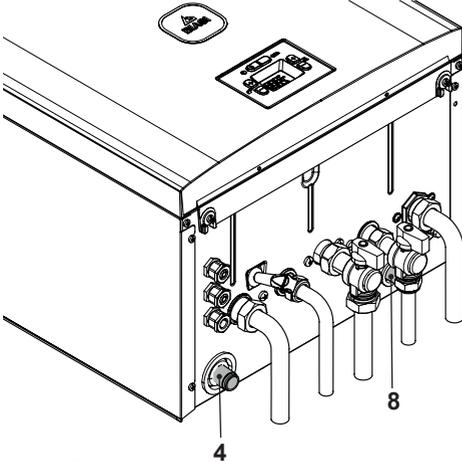

Figure 5.4
- Connect the safety valve discharge 8 (Figure 5.4) to an outlet funnel.
- Connect the condensate outlet pipe 4 (Figure 5.4) inside the residential condensate outlet duct or the safety valve outlet funnel if the outlet is resistant to acid condensate.